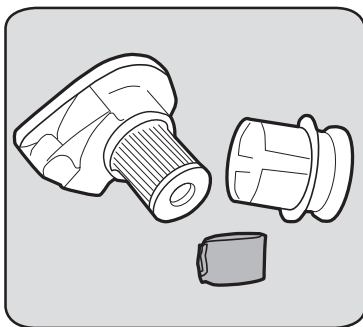

Fig. 19
5. Tap each filter on a hard surface until the dust is removed. Once a month when suction appears to be reduced, rinse each filter in warm water or clean with a soft brush. Let each filter completely dry for 24 hours before replacing in the vacuum. (Fig. 19)